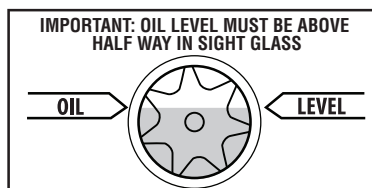

Figure 1
Step 1: Slowly add oil until level rises to the top of the oil level line. (Figure 1)
Step 4: Close oil drain valve on pump. Remove oil fill plug and fill to top of oil level line with BLACK GOLD Pump Oil (Figure 1). Replace oil fill plug.